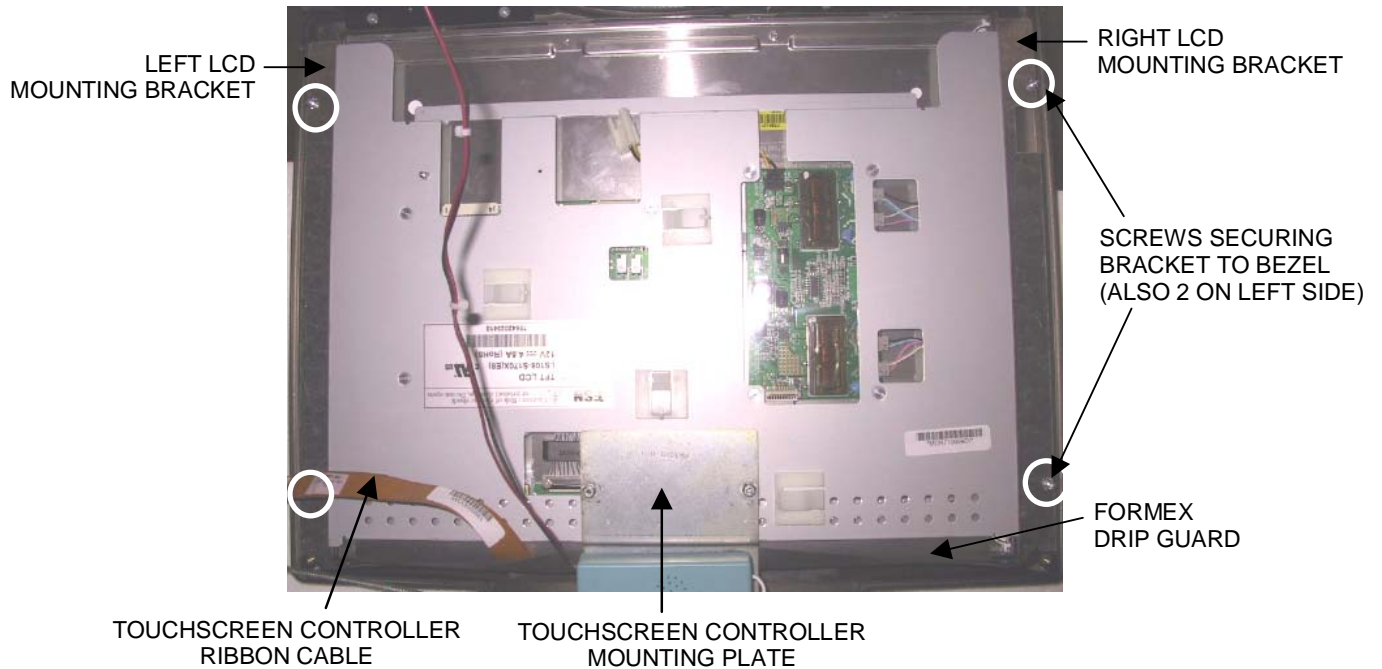
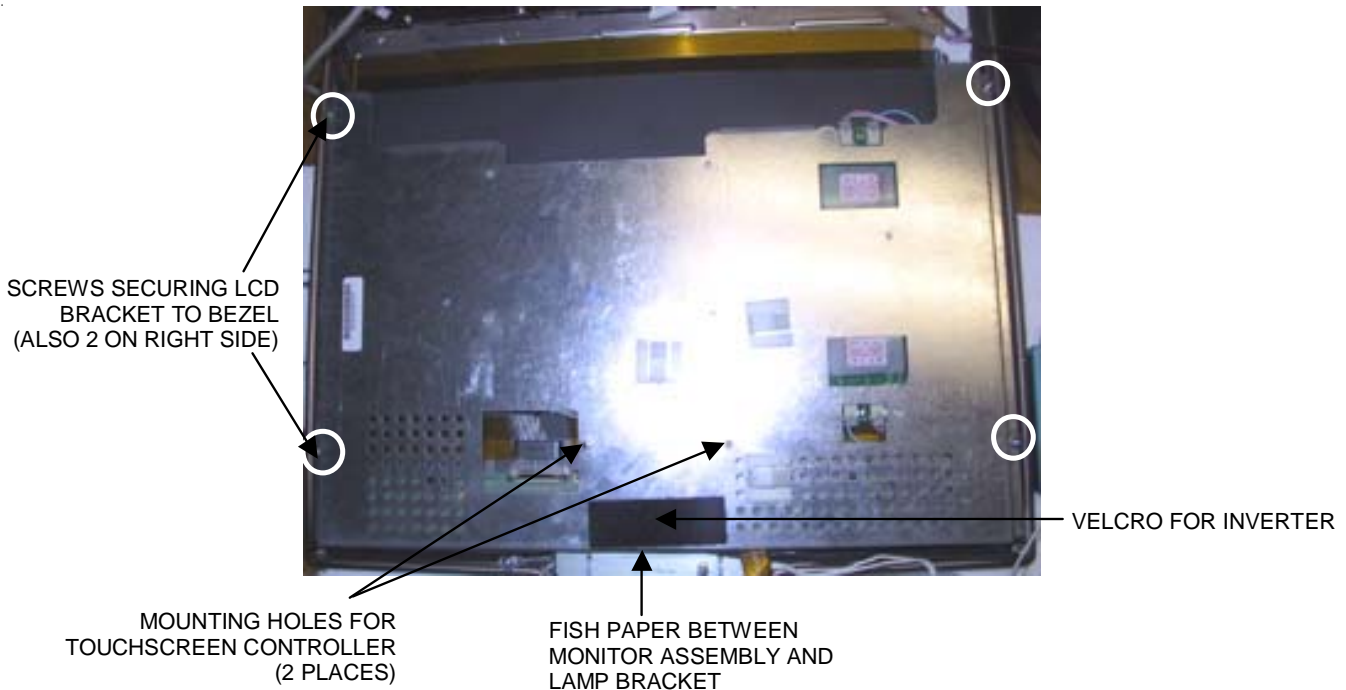

FIGURE 8 - REAR VIEW OF 17" MONITOR
FIGURE 9 - REAR VIEW OF 19" MONITOR
13. Remove the 4 screws securing either the left and right LCD mounting brackets to the bezel (17") or the LCD bracket to the bezel (19" and Widescreen), then carefully slide the monitor assembly out of the bezel. See Figure 8 for 17" games, Figure 9 for 19" and Widescreen games.
14. For 17" games: Remove the 4 screws securing the LCD mounting brackets to the monitor (2 per bracket). If replacing the monitor, remove the fish paper/foam tape strip attached to the top edge of the monitor. See Figure 8.
- If replacing only the monitor:* Carefully place the touchscreen over the new monitor in the same manner it was attached to the old monitor, making sure that the screen is properly and evenly aligned over the monitor glass. Clean the front of the touchscreen with an alcohol wipe once it is in place. Reattach the fish paper foam tape strip to the top edge of the monitor (17" games only; see Figure 8). You may need to attach the provided wire clamps to the rear of the monitor assembly. If so, note their location on the rear of the monitor your removed.
If replacing both the monitor and the touchscreen: Carefully place the new touchscreen over the new monitor in the same manner that the old touchscreen and monitor were attached, making sure that the screen is properly and evenly aligned over the monitor glass. Clean the front of the touchscreen with an alcohol wipe once it is in place. Reattach the fish paper foam tape strip to the top edge of the monitor/touchscreen assembly (17" games only; see Figure 8). You may need to attach the provided wire clamps to the rear of the monitor assembly. If so, note their location on the rear of the monitor your removed.
- For 17" games:* Replace the left and right mounting brackets on the monitor and secure each with 2 screws. Carefully slide the new monitor into the bezel, making certain that the edge of the monitor with the fish paper is secured underneath the touchscreen controller's mounting plate. Ensure that the monitor is properly centered, then secure the mounting brackets to the bezel with 4 screws. See Figure 8.
For 19" and Widescreen games: Carefully slide the new monitor assembly into the bezel, making sure (on standard 19" models) that the strip of fish paper is secured between the edge of the assembly with the Velcro and lamp mounting bracket. Ensure that the monitor is properly centered, then secure the LCD bracket to the bezel with 4 screws. See Figure 9.